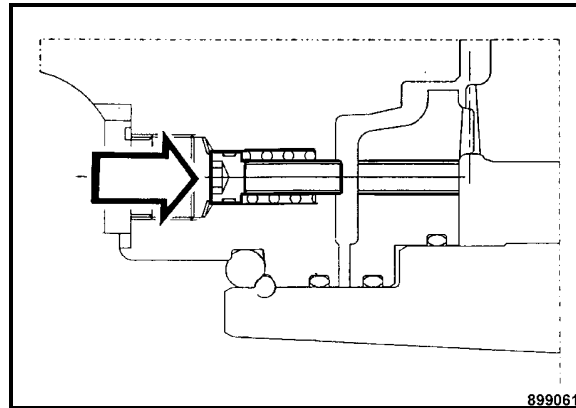

Fig. 101
- Completely release both screws (Fig. 101) to close the brake.